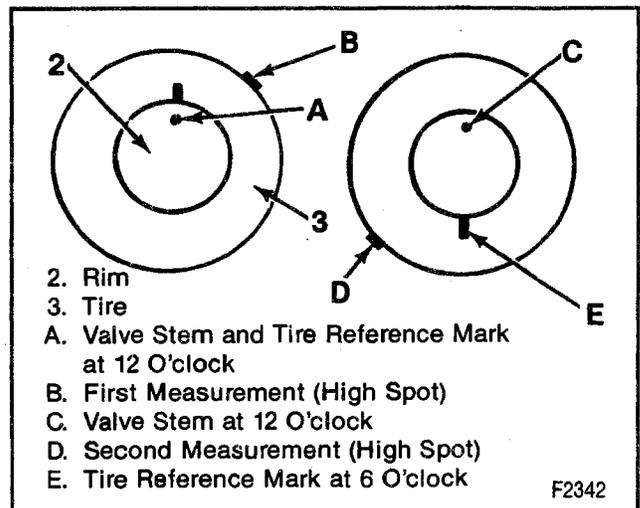

Figure 12—Tire to Wheel Vectoring (Excessive Tire Runout)
5. Break the tire and wheel assembly down on a tire mounting machine and rotate the tire 6 hours (180 degrees) on the rim (Figure 12).
7. If the clock position of the high spot is 6 hours from the original high spot, the tire is the major contributor to the runout problem (Figure 12).